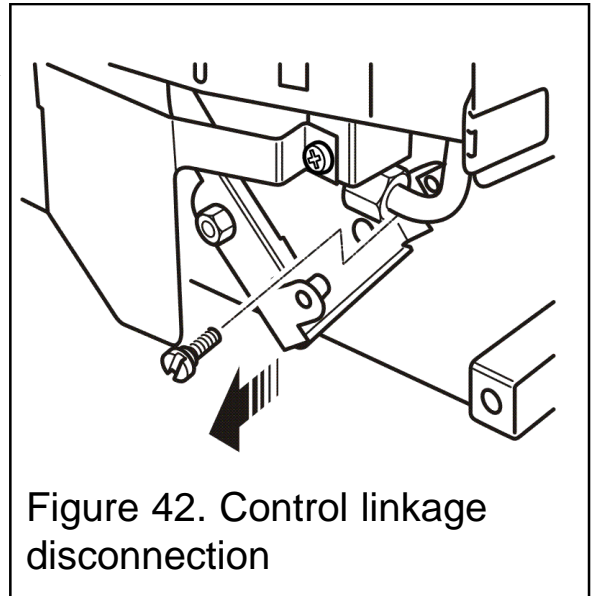

Figure 42. Control linkage disconnection
2. Detach the control-linking bar from the control pivot bracket by removing the knurled screw, which joins the control linking bar to the control pivot unit. See figure 42.